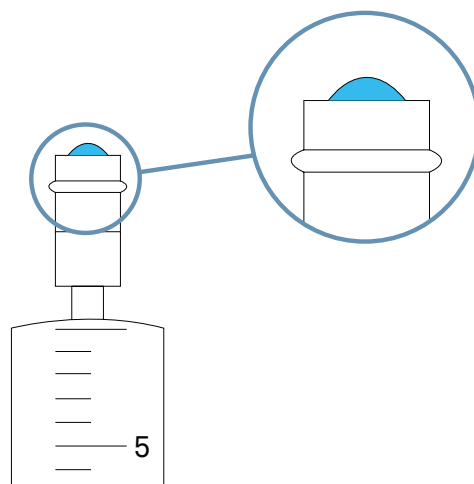

Figure 5 Build a meniscus
2. Push the syringe's plunger until a meniscus builds up on the tube piece (Figure 5).